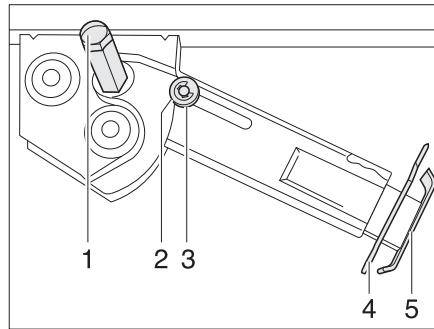

Fig. 34 Steady leg
- Place the socket spanner on the hexagonal nut (Fig. 34,1) and rotate until the steady leg is in a perpendicular downward position.
- Remove the splint (Fig. 34,4) out of the support foot extension (Fig. 34,5).
- Place the socket spanner on the hexagonal nut (Fig. 34,1) and rotate until the steady leg is clear of the ground.
- Push in the support foot extension (Fig. 34,5) and insert the splint (Fig. 34,4) in the drilled hole in the support foot extension.
- Rotate the hexagonal nut (Fig. 34,1) with the socket spanner until the steady leg has swung upwards and the guide disc (Fig. 34,3) has completely retracted into the notch (Fig. 34,2).